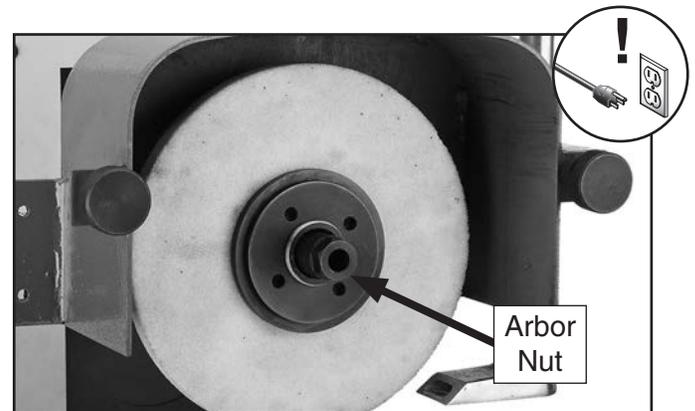

Figure 36. Wheel assembly and arbor nut installed.
6. Thread arbor nut onto arbor (see **Figure 36**) and tighten it until snug—overtightening may crack wheel.